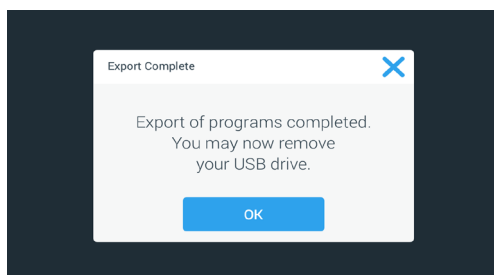

Figure 3-53: Programs -> Import Complete Pop-up Window
6. When the import has been successfully completed, the “Import Complete” pop-up window shown in Figure 3-53 below appears.